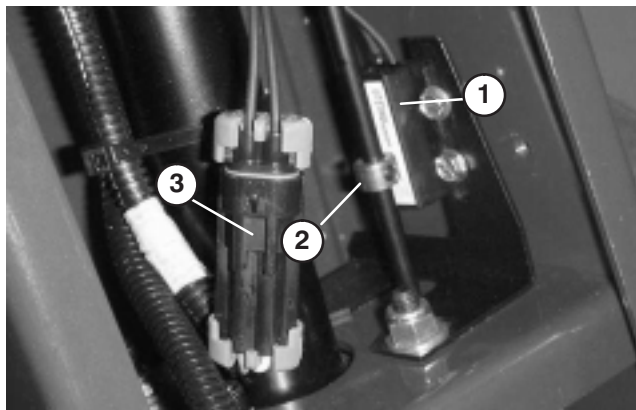

Figure 47
3. Disconnect switch pigtail connector from wire harness (Fig. 47).
5. Loosen set screw securing collar to parking brake rod (Fig. 47).
6. Slowly move collar on rod until it is aligned with cross hairs on switch label (Fig. 47). Tighten collar set screw.